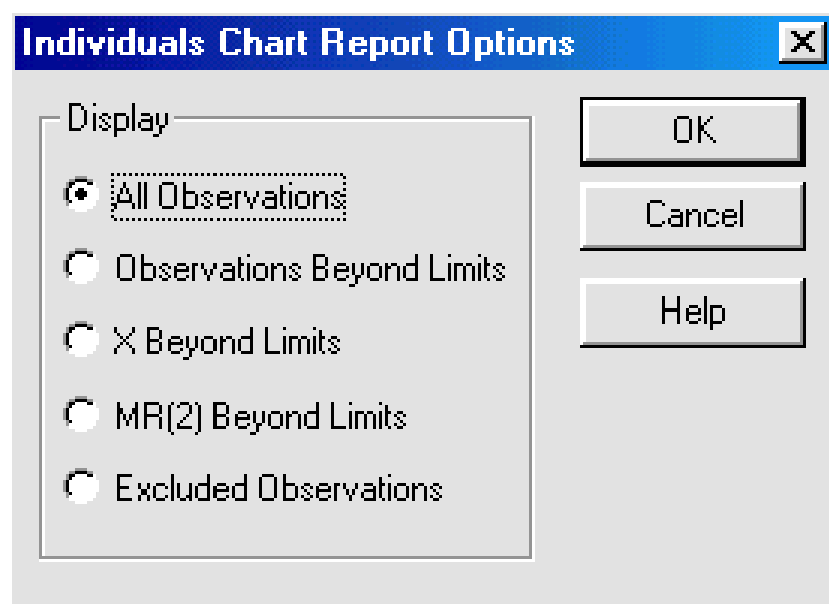

Figure 3-44. Individuals Chart Reports Options Dialog Box
Use the *Individuals Chart Report Options* dialog box to choose the type of reports that will be included: All Observations, Observations Beyond Limits, X Beyond Limits, MR(2) Beyond Limits, or Excluded Observations (see Figure 3-44).